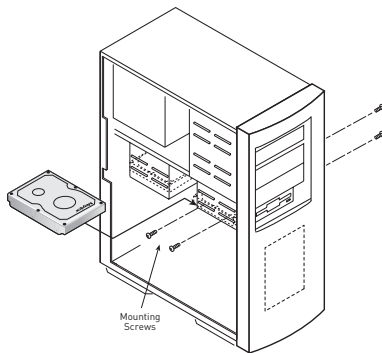

FIGURE 4
- Mount the hard drive in the 3.5-inch bay using the screws provided. See Figure 4.